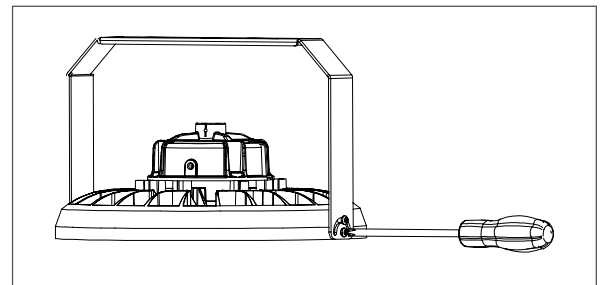

FIGURE 2
- B) Lock with screwdriver. (FIGURE 2)